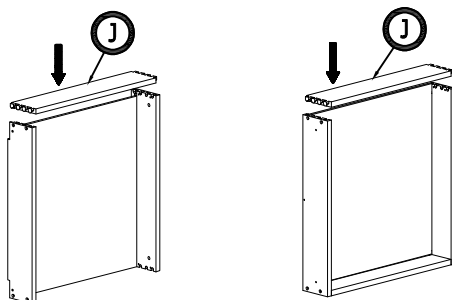

Figure 3
3. Install the drawer side into drawer back, drawer box back and front, click into place (Figure 3)